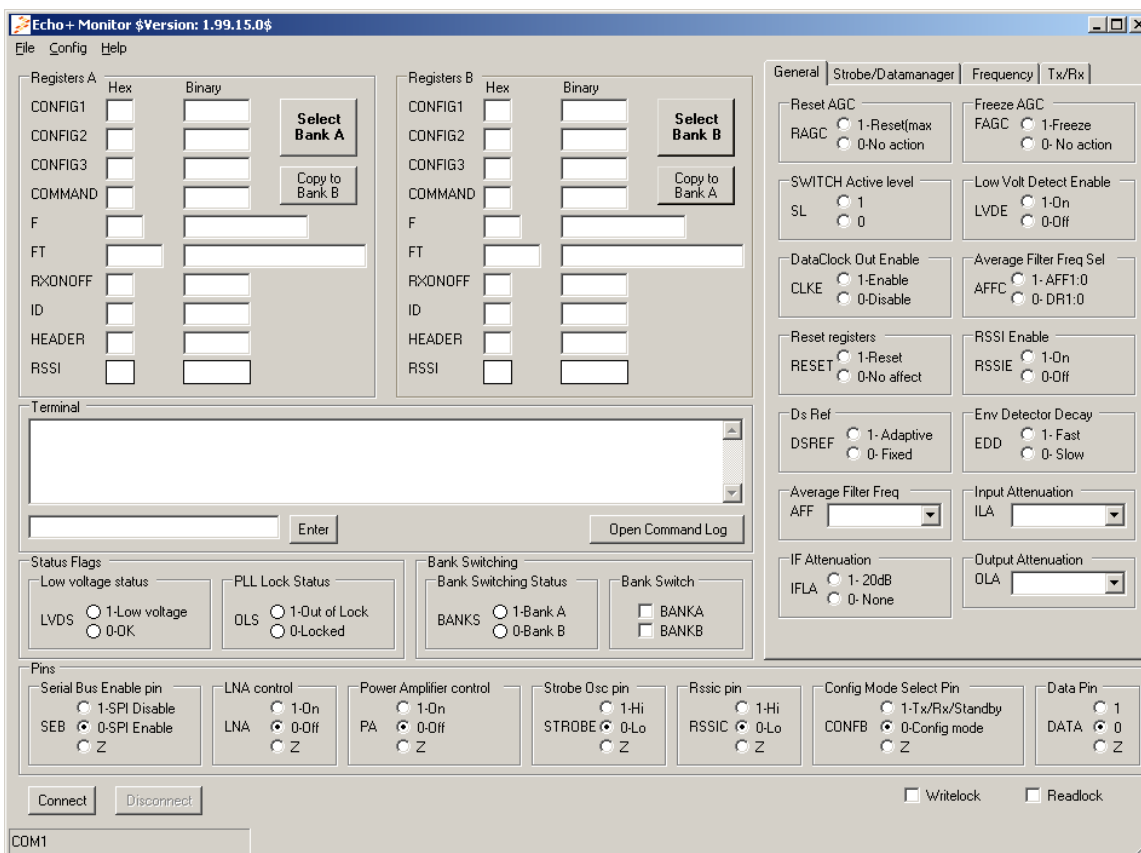

Figure 2. EchoRemote Window
- Select EchoRemote from the Windows Start menu. Figure 2 shows the window that appears.